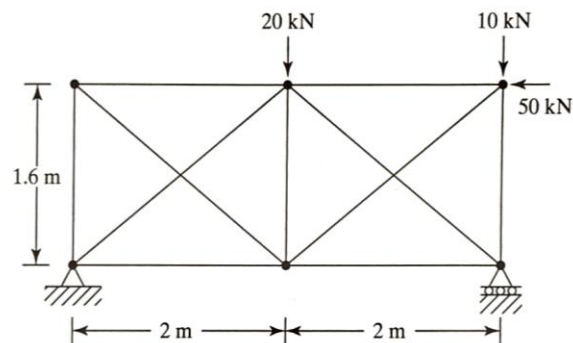

FIGURE P4.20
- 4.20. In the 11-member truss shown in Fig. P4.20, the horizontal and vertical members have a cross-sectional area of  $200 \text{ mm}^2$ , and all other members have a cross-sectional area of  $90 \text{ mm}^2$ . All members are made of steel. For the loading shown, determine nodal displacements and element stresses using symmetry/antisymmetry. If Euler critical load (buckling load) of a member of length  $l$  is  $\pi^2 EI/l^2$ , check if all members in compression are safe in buckling.